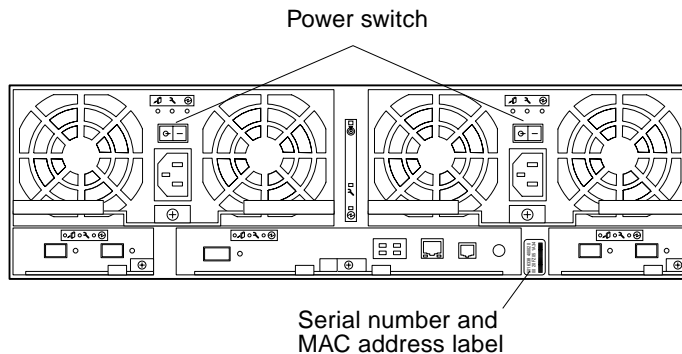

FIGURE 6-16 Array—Back View
5. Press the power switch on the power and cooling units to the Off (-) position (FIGURE 6-16).
FIGURE 6-16 shows the power switch location. The AC indicator lights on the power and cooling units are solid green.